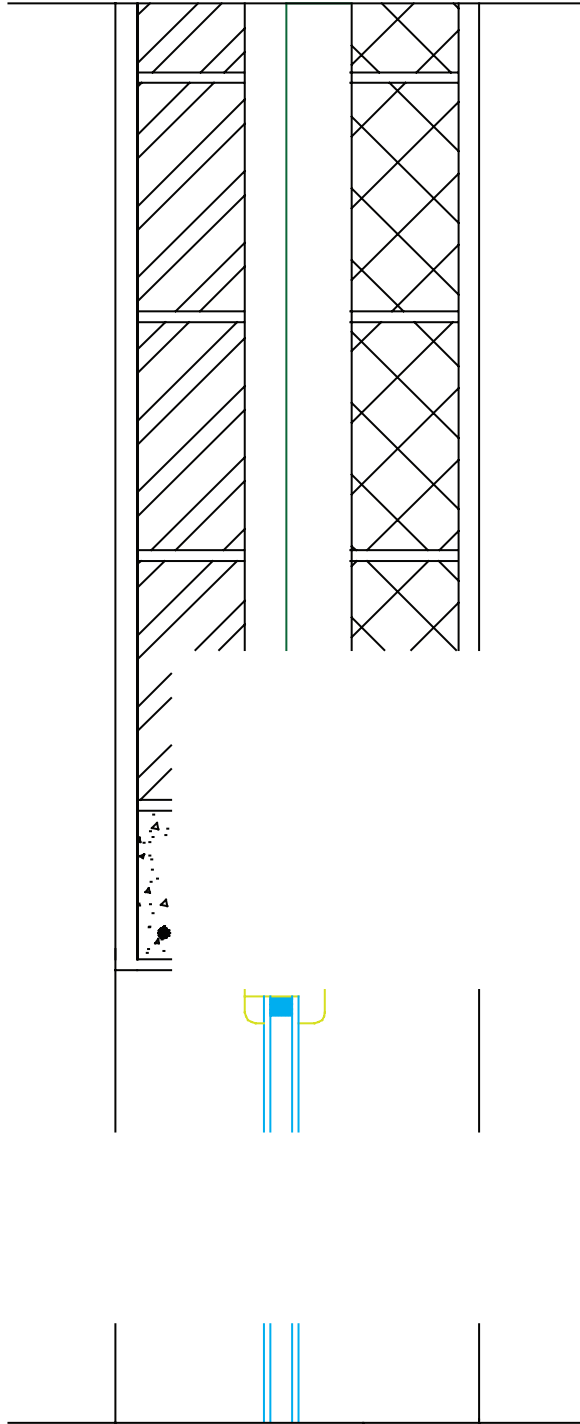

Fig. 3
- 9 **Fig. 3** shows an incomplete detail for the window head shown in the attached house plans. Complete the drawing and add the annotation from the next page. [10]
Add the annotation to **Fig. 3** in the appropriate place using the list provided.